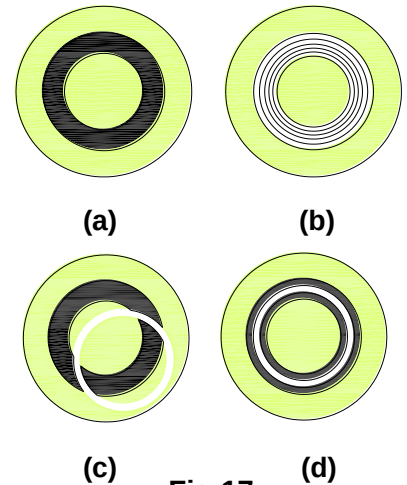

Fig.17
- b. Observe from the telescope. The bright ring and dark ring should be coincided with each other as shown in **Fig.17 (d)**.
- d. If the bright ring is still obscure as in **Fig.17 (b)**, adjust the condenser focus knob.
- e. If the two ring images are not coincided as shown in **Fig.17 (c)**, hold the ring plate from the bottom of the annular ring disk and adjust its position until two ring images are coincided.